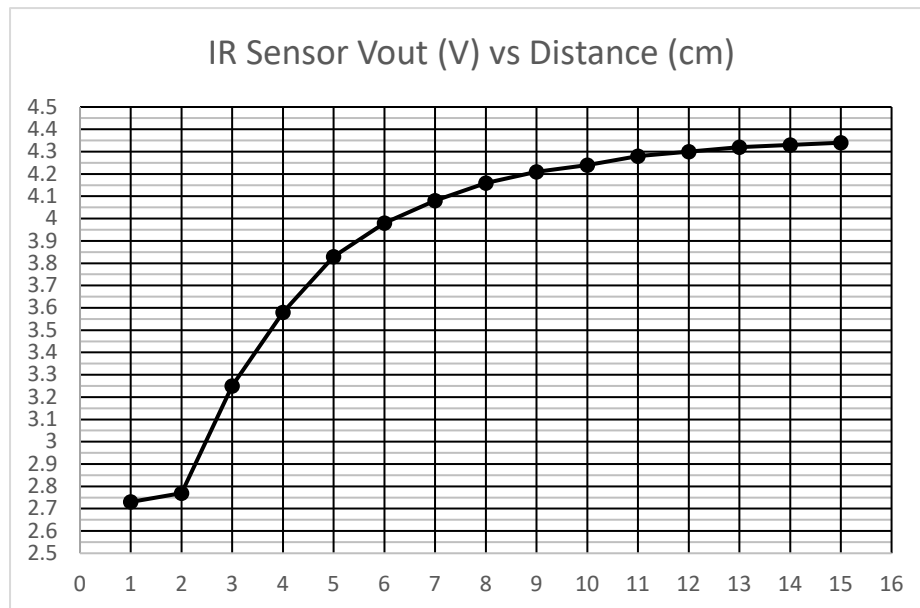
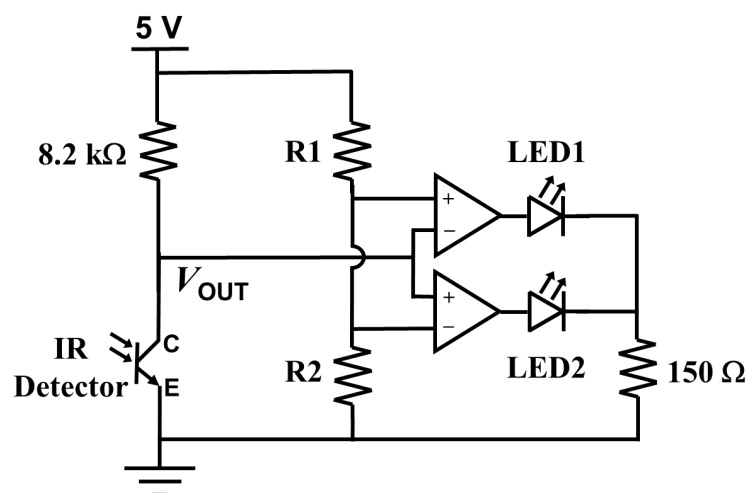

Figure 5: IR Sensor V_{OUT} vs Distance.
Figure 6: IR Proximity Sensor Circuit.
- (A) 100 Hz
- (B) 200 Hz
- (C) 400 Hz
- (D) 800 Hz
- (A) 240 Hz
- (B) 120 Hz
- (C) 60 Hz
- (D) 30 Hz
14. A young engineer tested a new IR sensor for proximity sensing using the indirect incidence setup. He obtained the graph as shown in Figure 5. He built a proximity sensor circuit as shown in Figure 6. By using two op-amp comparators, he wanted his circuit to light up one LED when an opaque object is less than 4 cm from the sensor, and another LED when it is more than 4 cm. Help him complete his circuit design.